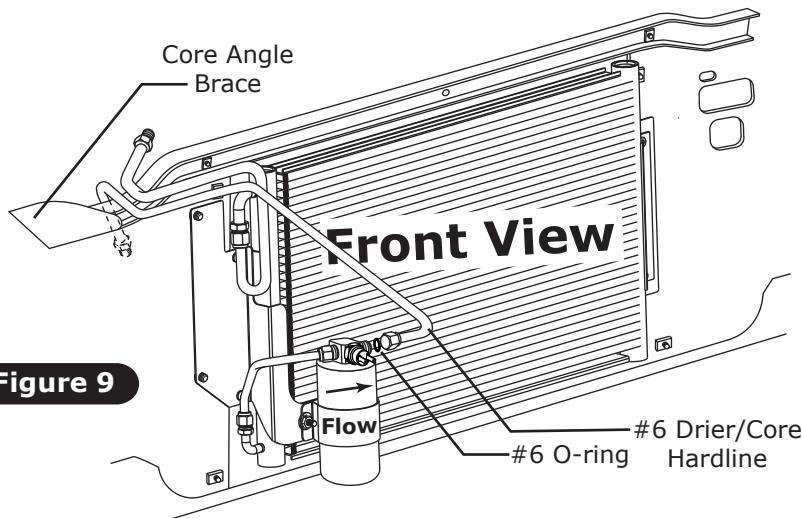

Figure 9
1. Lubricate a #6 O-ring as shown in Figure 3, Page 6. Install the #6 drier/core hardline as shown in Figure 9, below. Tighten fittings as shown in Figure 3, Page 6.